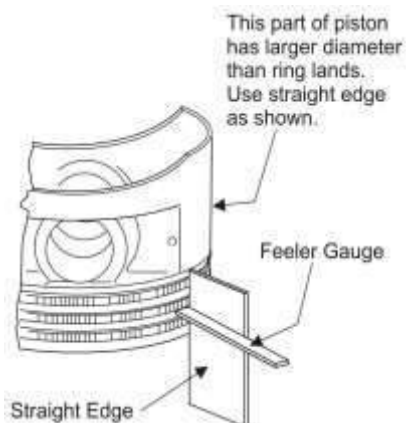

Figure 23
- G. To ensure correct installation, measure the side clearance of the rings in the grooves with a | feeler gage and a straight edge (Figure 23). If the actual measurement is greater than the maximum allowable side clearance, per the latest revision of the **Service Table of Limits - SSP-1776**, replace the piston.